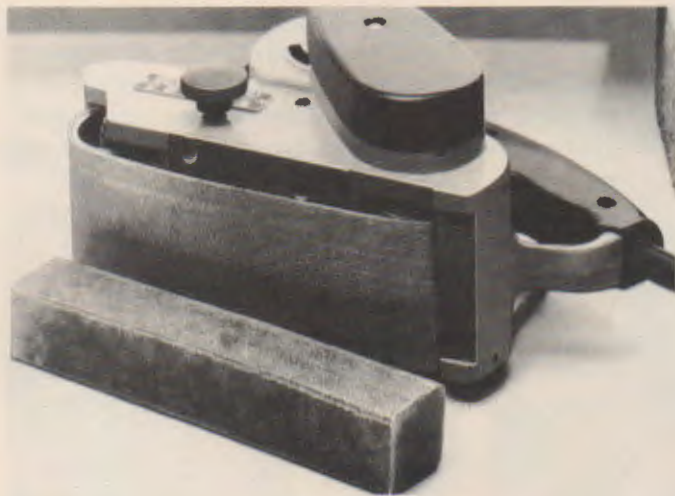

Fig. 31-33. A rubberlike cleaner removes resin and chips from abrasive sheets. (Brookstone Co.)
13. Remove resin and chips from loaded and clogged abrasives with a rubber cleaning block, Fig. 31-33. Some soft shoe soles can be substituted for the blocks. Rub the cleaning block against the moving abrasive. This extends the effective life of the abrasive.